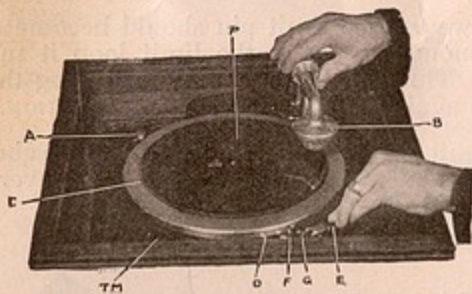

Fig. 5
- 1. To make tone soft, push the tone modulator slide (T. M. Fig. 5) toward the right.
NOTE—In attaching ball (H), regulate the extent to which wire enters the ball, so that the latter will just close the inner opening of the horn, without leaving undue slack in wire, when the tone modulator slide (T. M. Fig. 5) is to extreme right.
2. Turn speed adjusting knob (A) to right until it strikes the pin.
3. Swing Reproducer (B) to extreme right.
4. Place the RE-CREATION (C) on the turn-table.
5. Start phonograph by pushing starting lever (D) to left.
7. Lower Reproducer onto the RE-CREATION by raising the operating handle (E) to vertical position with the left hand, while guiding the Reproducer with the right hand as shown in Fig. 5.
9. When the selection is finished, raise the Reproducer by means of the operating handle and stop the phonograph by pushing brake lever (F) to left.
- (d) Loosen set screw (L) slightly; i. e., enough to allow the arm (M) to be turned at (N) by hand.
- (f) To make Safety Stop operate later, turn arm (M) slightly to the left; to make it operate earlier, turn arm slightly to the right.
- (g) Continue this adjustment until the phonograph stops with the diamond point of the Reproducer just at the outer circumference (P, Fig. 5) of the label on the RE-CREATION.
- (d) If the speed is found to be more than eighty (80) turns, it may be corrected by turning the speed adjusting knob (A, Fig. 5) slightly to the left until the correct speed is obtained.
- (e) In rare cases the speed may be found to be less than eighty (80) turns; if so, it may be corrected by turning the adjusting screw, which will be found in the speed adjusting lever beneath the top-plate. This screw is reached by removing the grill in the front of the cabinet and reaching into the horn compartment to the left of horn.